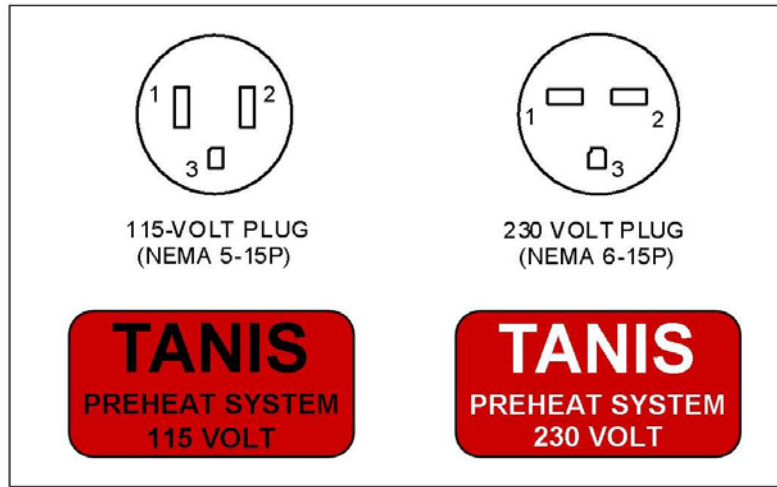

Figure 1 - Shore power plugs and placards. Placard that states at a minimum, *Tanis* and the system voltage requirement (115 Volt or 230 Volt) is acceptable.
- a. Shore power plug - mount in a location accessible through oil or coolant access door or cowl opening, on or near an engine or airframe mount. Plug must be securely mounted in a bracket or with cushioned clamps (Figures 1 and 2).
- 4) [] Verify preheat system ground by checking for continuity between shore power plug ground, pin 3 (Figure 1), engine, and airframe.